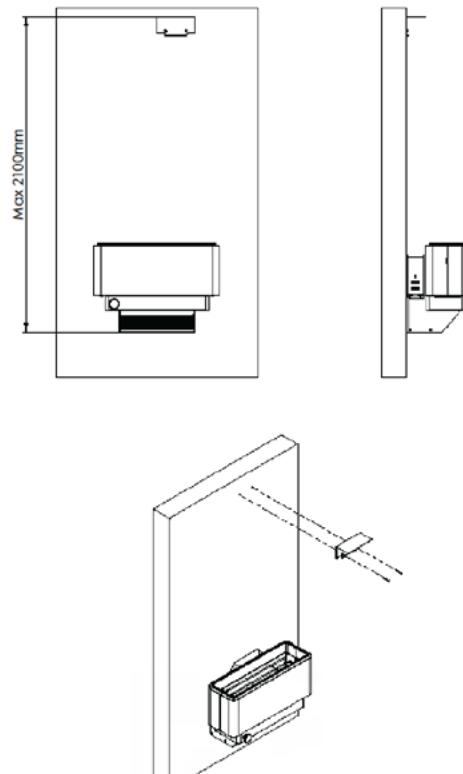

Figure 3.7: Fitting and fastening the flue cap
**3.2.6.** Attach the flue cap under the sauna room ceiling using two 5 mm bolts (figure 3.7). NB! Make sure that the flue cap is aligned with the flue opening in the flue socket!